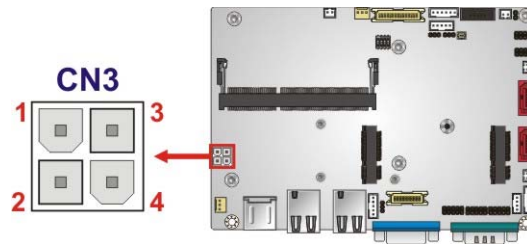

Figure 3-3: 12 V Power Connector Location
- CN Location:** See **Figure 3-3**